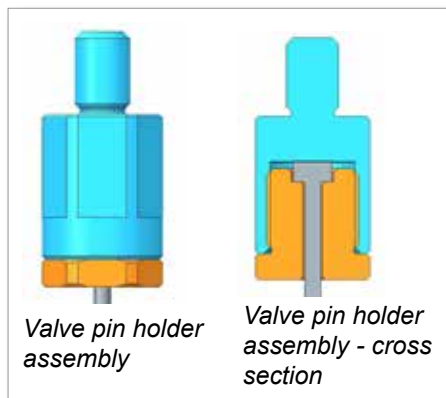

Figure 12-3 Valve pin holder assembly
2. Install this assembly onto the top piece of the valve pin holder. Torque to 8 to 10 Nm [6 to 7 ft-lbs]. See Figure 12-3.